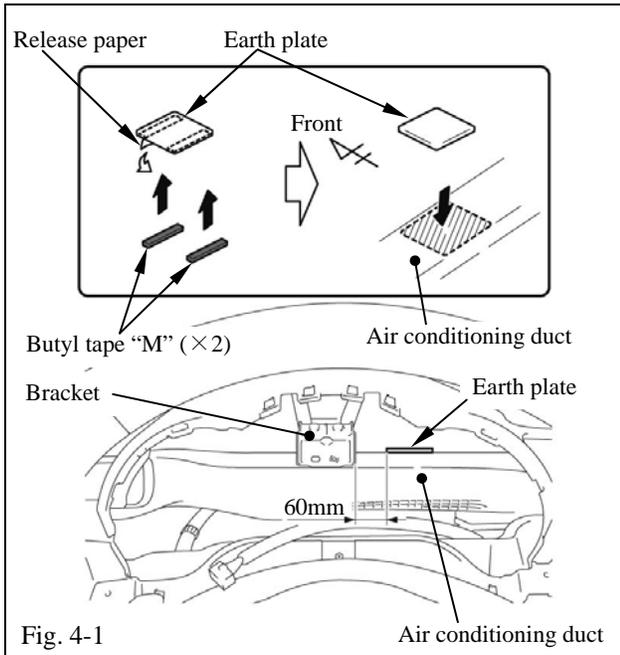

Fig. 4-1
(1) Remove the release paper from the earth plate and the butyl tape, and apply butyl tape to the bottom of the earth plate (Fig. 4-1).
(2) Attach the earth plate onto the air conditioning duct (Fig. 4-1).